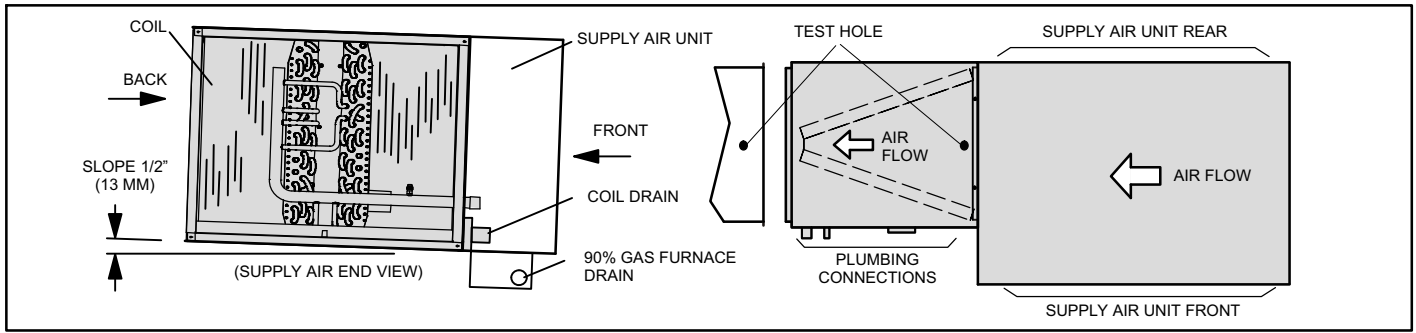

Figure 2. Left-Hand Air Discharge
3. **Left-Hand and Right-Hand Discharge**—The coil must have a 1/2" slope from the rear of the cabinet to the drain. Position the coil adjacent to the furnace cabinet and align the six screw clearance holes in the coil casing with the furnace engagement holes. Use six field-provided #8 X 1" screws to secure the coil cabinet to the furnace (see figures 2 and 3).